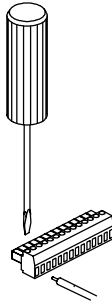

Figure 2.4 - Inserting the wire
- 8) Loosen the terminal block connector screw of the selected position, insert the wire and tighten the screw (see figure 2.4).